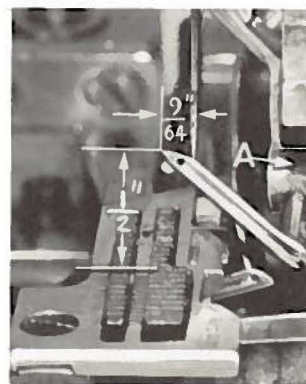

Fig. 10
Next, turn handwheel until looper is at the left end of its travel; check dimensions of upper looper point with respect to needle and throat plate (Fig. 10). If resetting is necessary, do it by moving the upper looper holder (A, Fig. 10). Figure 10 represents the dimensional setting for Styles 39500 FS, FT, FU, and GT.
If it becomes necessary to move looper thread pull-off (AF), be sure to take up all end play in needle drive shaft before tightening. If upper looper is located so that it is higher over throat plate than recommended in (Fig. 10), the purl will tend to form near top edge. If upper looper is too low, the purl will form nearer bottom edge.